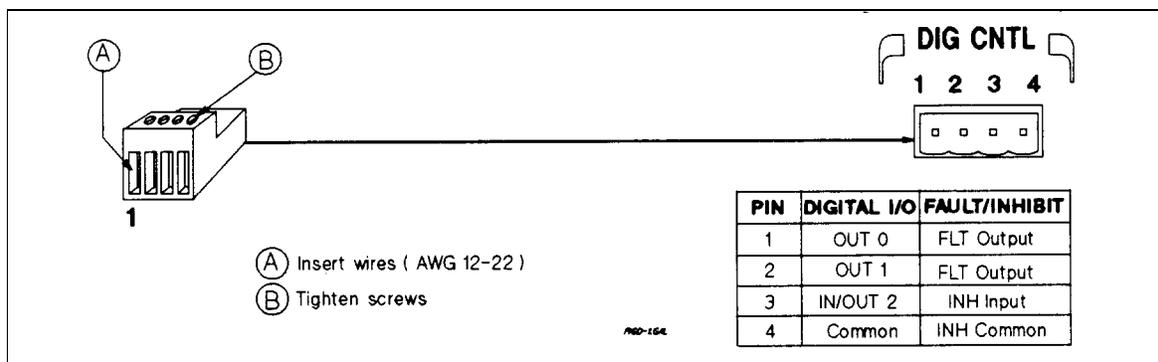
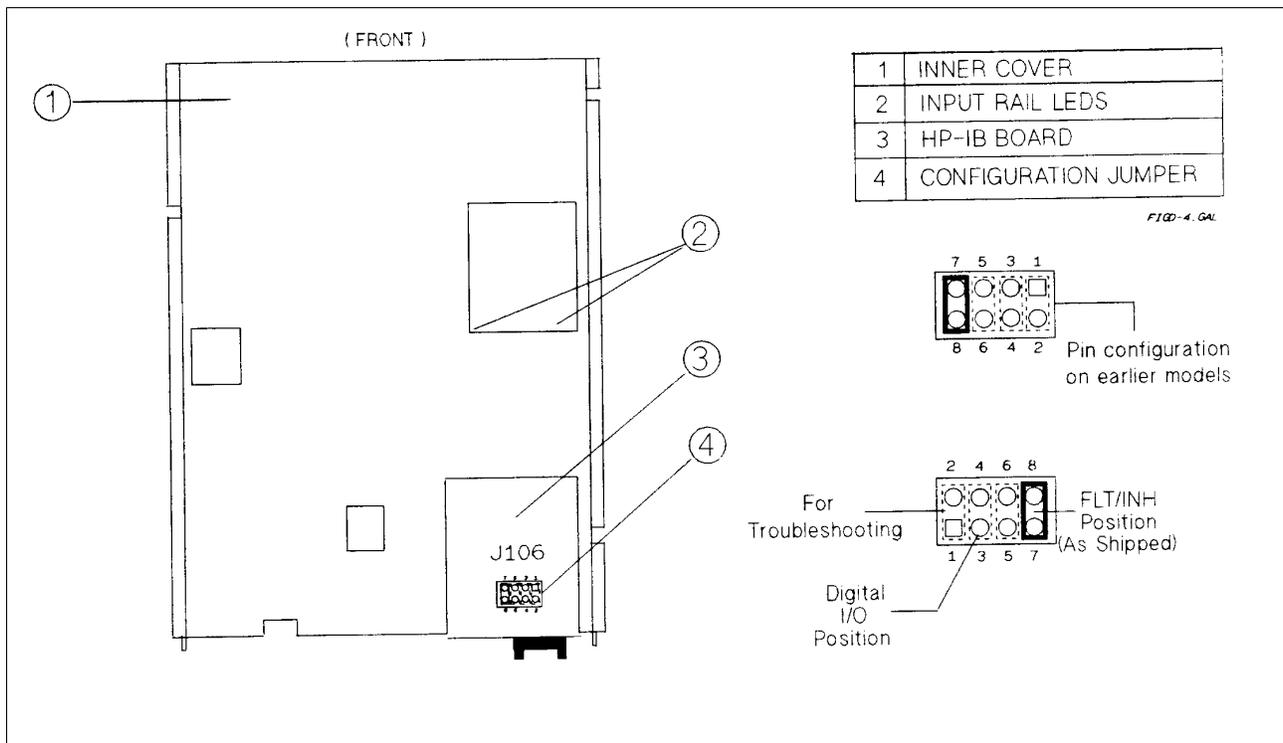
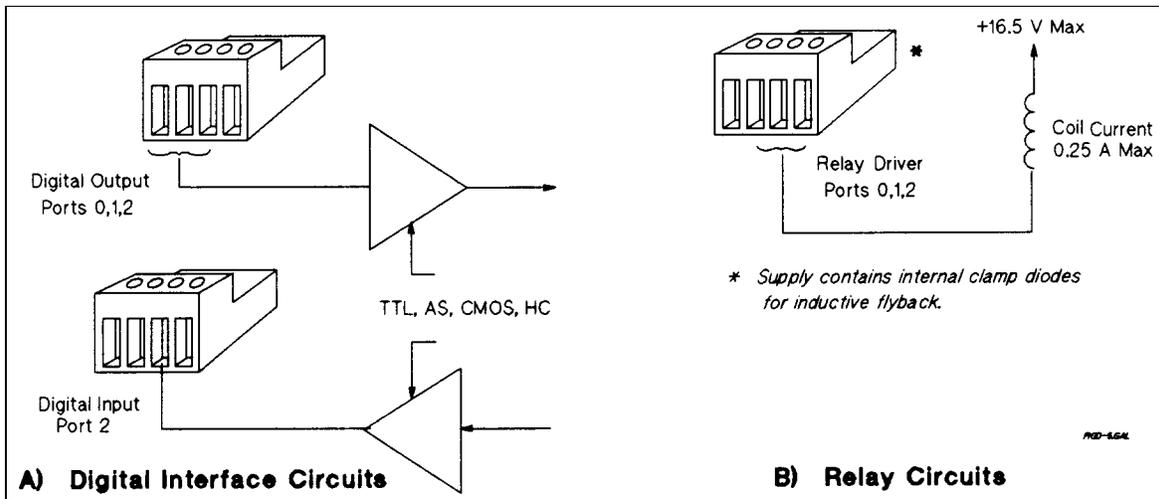

Figure F-1. Digital Port Connector
Figure F-4. Digital Port Configuration Jumper
Figure F-5. Digital I/O Port Applications
A 4-pin connector and a quick-disconnect mating plug are provided for digital input and output signals (see Figure F-1 for wiring connections, and Table A-2 for electrical characteristics). This digital port can be configured to provide either Fault/Inhibit or Digital I/O functions.
As shipped from the factory, the digital port is configured for FLT/INH operation. You can change the configuration of the port to operate as a general-purpose digital input/output port to control your custom circuitry as shown in Figure F-4. To change the port configuration, you must move a jumper on the GPIB board.
5. Refer to Figure F-4 and use needle-nose pliers to move the jumper to the Digital I/O position.
The digital port can be configured (see Figure F-4) to provide a digital input/output to be used with custom digital interface circuits or relay circuits. Some examples are shown Figure F-5. See Figure F-1 for the pin assignments of the mating plug and Appendix A for the electrical characteristics of the port. See **DIG:DATA[:VAL]** in "Chapter 7 - Language Dictionary" for information on programming the port. The digital port pins are as follows:
The digital port can be configured to provide relay control outputs for the Agilent 59510A or 59511A Relay Accessory. Refer to Figure F-1 for the pin assignments of the mating plug.